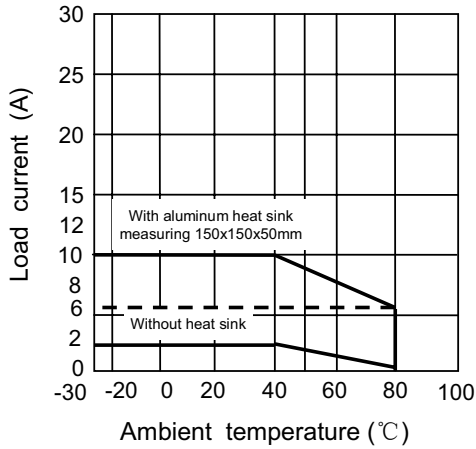

Figure 1 Maximum load current vs. ambient temperature
(2) See figure 1.
(3) Dielectric strength is measured between input and output.